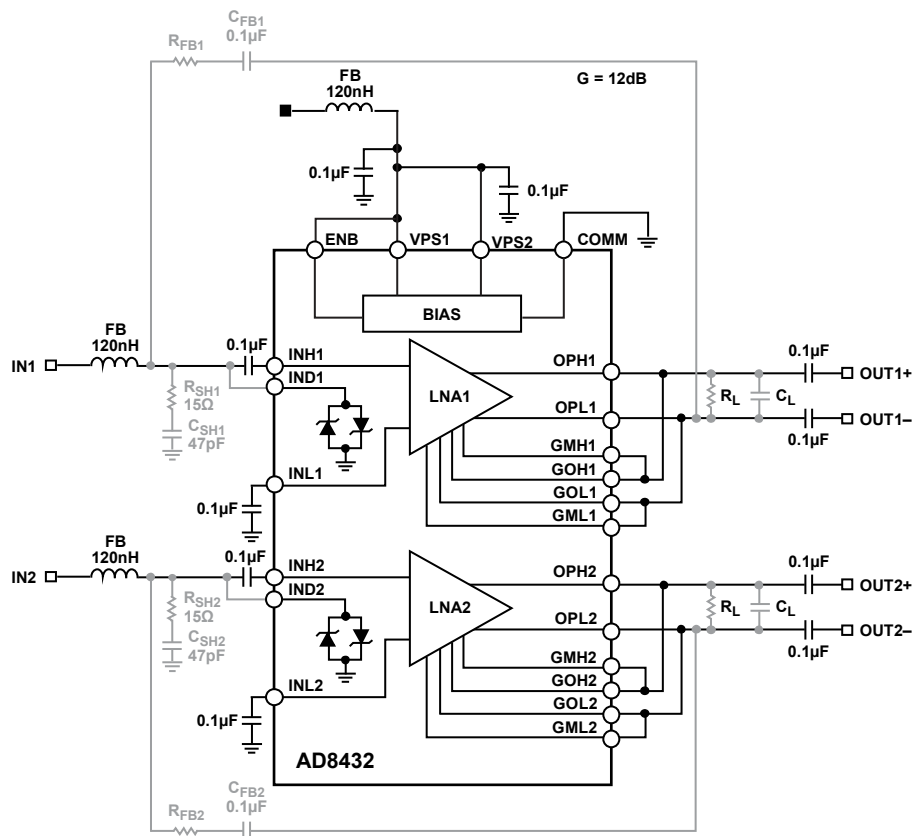

Figure 69. Typical AD8432 Setup, G = 12.04 dB
At the lowest gain (12.04 dB), the gain response exhibits some peaking at higher frequencies. A resistor-capacitor shunt network (RC) at the input (see  $R_{SHx}$  and  $C_{SHx}$  in Figure 69) is recommended to reduce gain peaking and enhance stability at higher frequencies.